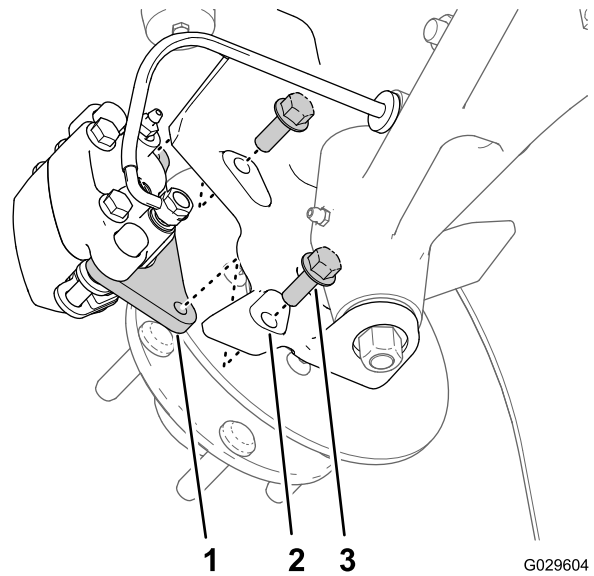
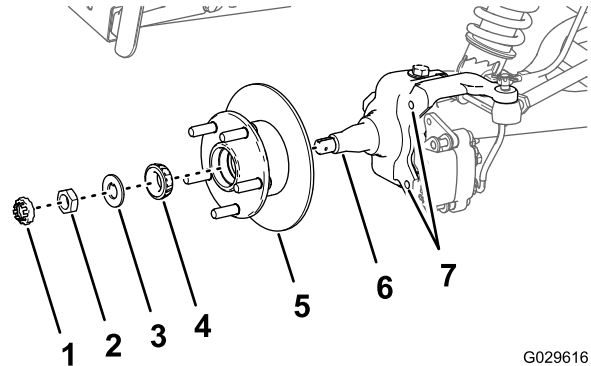

Figure 29
Figure 33
3. Remove the flange-head bolts (3/8 x 1 inch) that secure the bracket for the brake assembly to the spindle and separate the brake from the spindle (Figure 29).
1. Apply a light coat of the specified grease to the spindle (Figure 33).
2. Assemble the hub and rotor onto the spindle with the rotor inboard (Figure 33).
3. Assemble the outboard bearing onto the spindle and seat the bearing to the outboard race (Figure 33).
4. Assemble the tab washer onto the spindle (Figure 33).
5. Thread the spindle nut onto the spindle and tighten the nut while rotating the hub (Figure 33).
2. Align the brake pads to either side of the rotor (Figure 29) and the holes in the caliper bracket with the holes in the brake mount of the spindle frame (Figure 33).
3. Assemble caliper bracket to the spindle frame (Figure 29) with the 2 flange-head bolts (3/8 x 1 inch), and torque the bolts 47 to 54 N-cm (35 to 40 ft-lb).